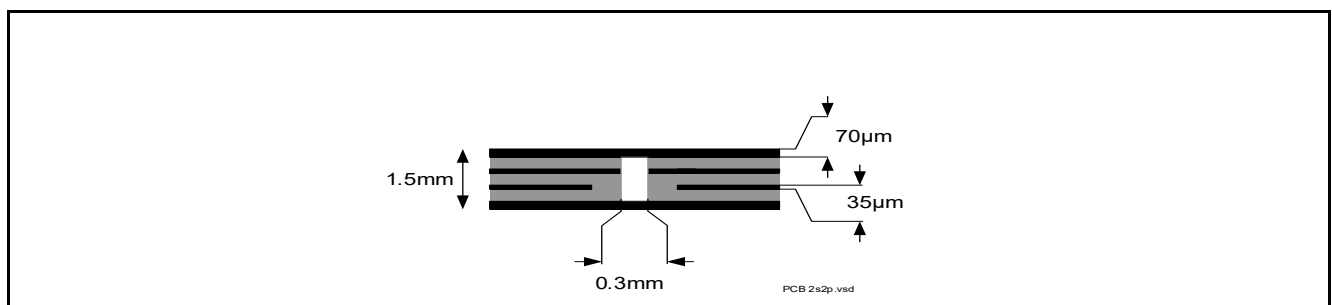

Figure 4 2s2p PCB Cross Section
- 2) Specified R_{thJA} value is according to JEDEC JESD51-2,-5,-7 at natural convection on FR4 2s2p board with 1 W power dissipation equally dissipated for both channels at $T_A=105^\circ\text{C}$; The product (chip + package) was simulated on a 76.4 x 114.3 x 1.5 mm board with 2 inner copper layers (2 x 70 μm Cu, 2 x 35 μm Cu). Where applicable, a thermal via array under the exposed pad contacts the first inner copper layer. Please refer to Figure 4.